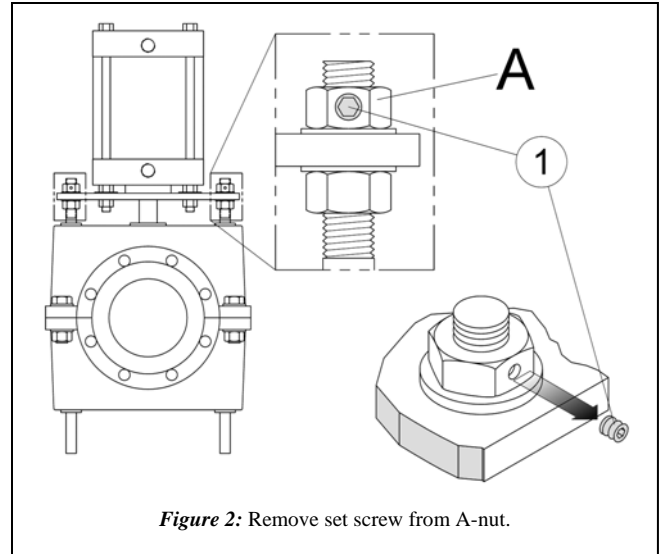

Figure 2: Remove set screw from A-nut.
STEP 2: Remove the set screw ① from each A-nut and cut/scrape away as much as possible the blue rubber coating above each A-nut (Fig. 2).